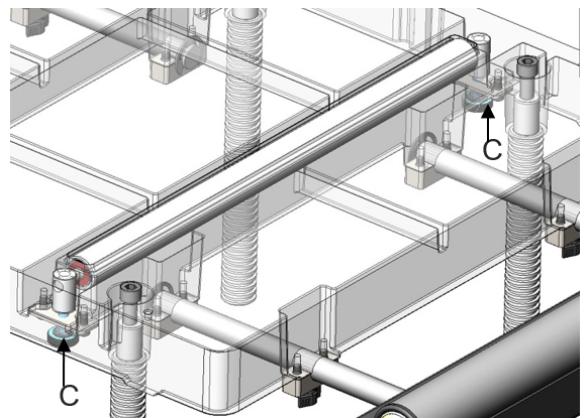

FIGURE 24: TABLE ROLLER ADJUSTMENT
3. Move straight edge to the opposite side of bed roller and check to see that the roller just contacts straight edge. If not turn the knob (Fig. 24, C) under the table to raise or lower the bed roller until it just contacts the straight edge.